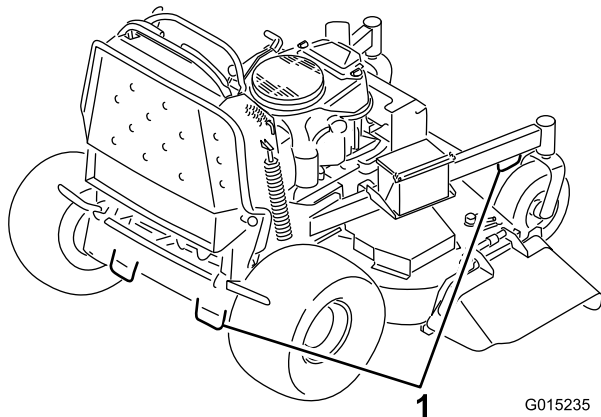

Figure 26
6. Use the metal tie down loops on the machine to securely fasten the machine to the trailer or truck with straps, chains, cable, or ropes (Figure 26).